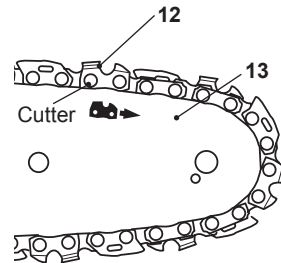

Fig. 2
4. Spread the saw chain (12) out with the cutting edges of the chain pointing in the direction of rotation. Slide the saw chain (12) into the groove around the guide bar (13). Ensure saw chain (12) is installed in correct direction of rotation (Fig. 2).